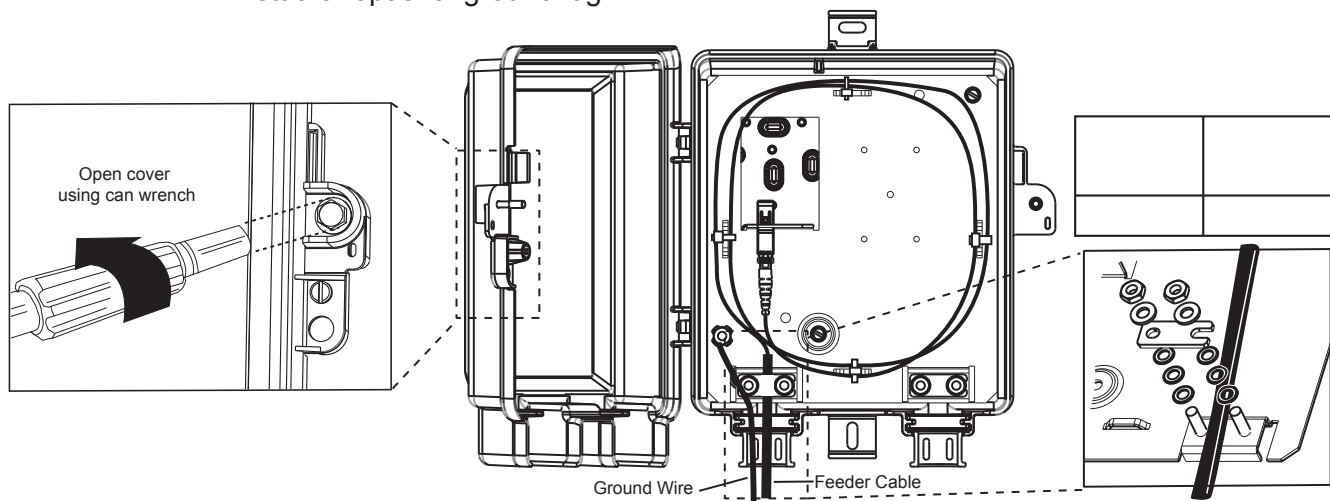

Figure 3 — Grounding and Feeder Cable Installation
- Step 2:** Pierce grommet and insert feeder cable into the unit. Remove strain-relief hardware using a can wrench. Strain-relieve the cable with the clamp as shown in Figure 3.
- Step 1:** Pierce grommet and insert cable into the unit. Remove strain-relief hardware with a can wrench. Strain-relieve with the clamp as shown in Figure 3.